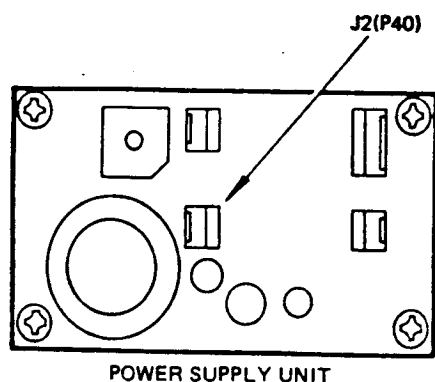

Figure 2-4
8. Insert plug P40 into Jack J2 as shown in Figure 2-4.